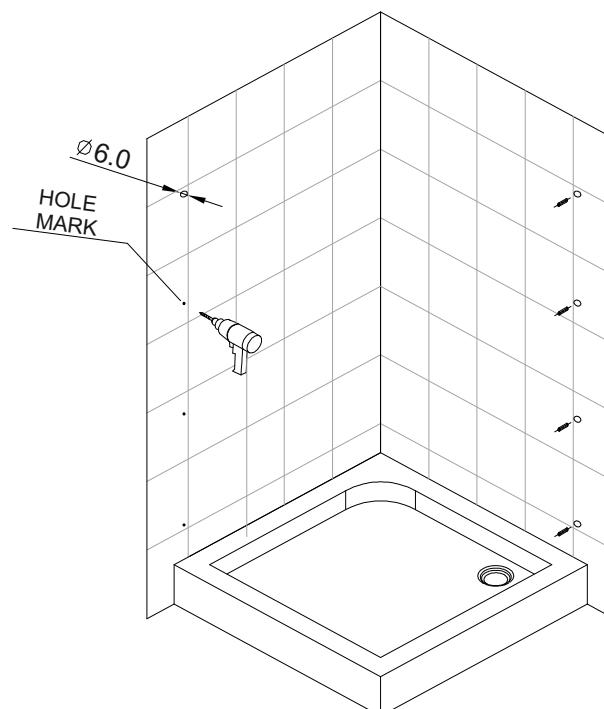

Fig. 2
- 2) Drilling the holes (8--φ6mm) according the mark, insert the 1) plastic plug into the holes . As Fig.2